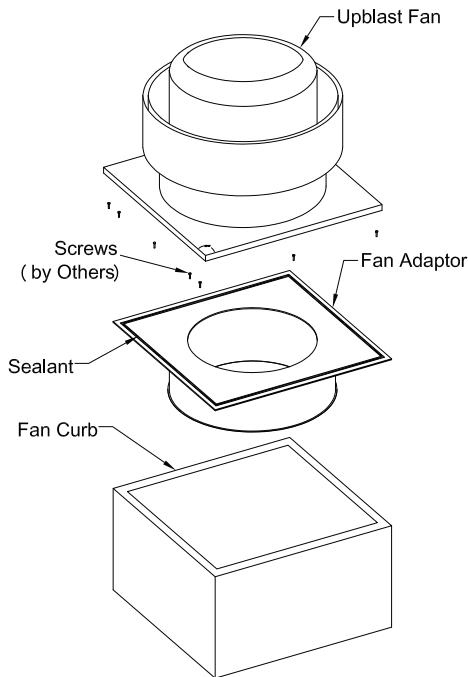

Figure 117: Fan Adapter
2. When connected to an upblast fan, the plate mounts on top of the fan curb which supports the fan housing. **See Figure 117.**
5. Secure the plate to the curb a minimum of three (3) places per side with minimum #8 x 1-1/4" wood screws. You will have to drill holes in the plate.